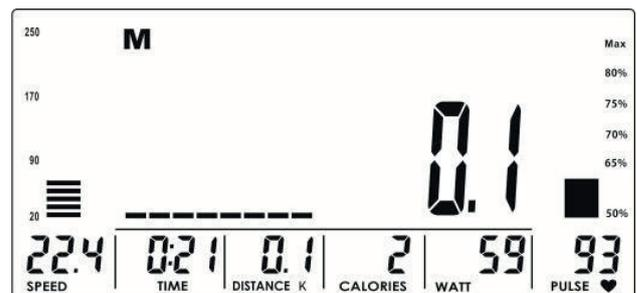

Fig. 9
4. Press START/STOP to start the training. During the training, the intensity level can be adjusted with the encoder. When the intensity level is displayed in the WATT window, the value cannot be adjusted for three seconds. It switches to the display WATT (fig. 9).